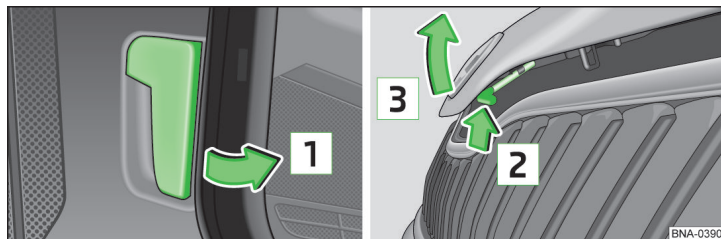

Fig. 75 Bonnet release lever/release lever
- › Open the driver's door and pull the unlocking lever below the dashboard in the direction of arrow **1** » fig. 75.